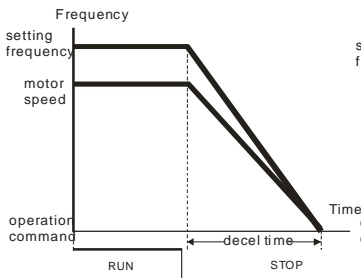

Figure 1: ramp to stop
- (1) It is recommended to use “ramp to stop” for safety of personnel or to prevent material from being wasted in applications where the motor has to stop after the drive is stopped. The deceleration time has to be set accordingly. (figure 1)